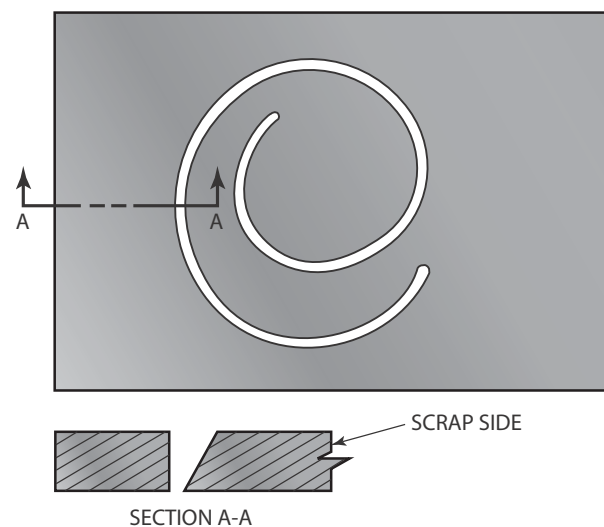

FIGURE 22-42 When cutting a hole, spiral the torch outward in a counterclockwise direction. © Cengage Learning 2012
- Move the torch in a counterclockwise direction in an outward spiral until the hole is the desired size, Figure 22-42.